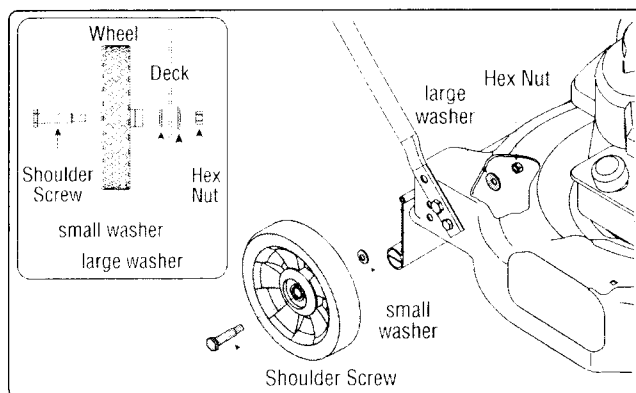

Figure 9: Installing wheels.
1. Using hardware from group 1, secure the wheel to the deck as shown in Figure 9. The small bell washer should be installed with the crown side facing the wheel.